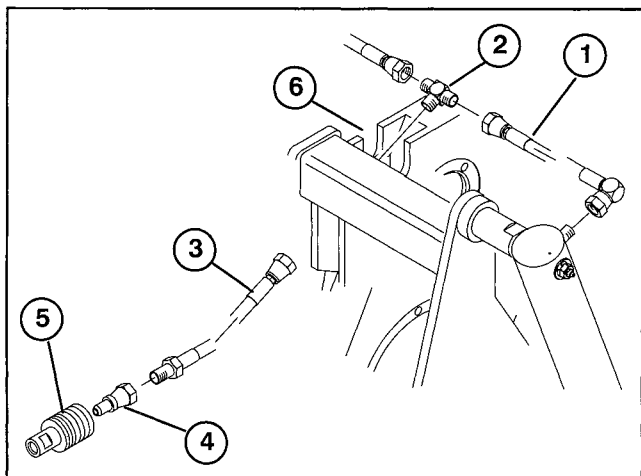

**Figure 9**
2. Insert one end of a stabilizer arm onto pivot shaft and secure with a 5/8–11 locknut. Secure other end of arm to caster wheel assembly with a 5/8–11 x 1–3/4" lg. capscrew and 5/8–11 locknut (Fig. 9). Install arm with grease fittings upward. Tighten fasteners snug to remove end play but not tight. Joints must pivot freely.